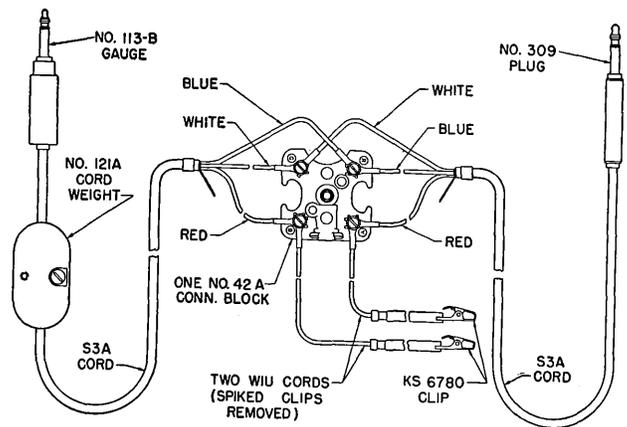

Fig. 1
- 2.02 Testing Cords—Two Test cord assemblies shown in Fig. 1 used in testing jacks for cut-out by the A.C. Continuity Method. (To be made up locally).
3.01 Insert a No. 113-B gauge into a multiple jack of an idle outgoing trunk to be tested and the associated No. 309 plug into the CON REAR jack of the test line circuit. Attach the No. 309 sleeve cord clip (see Fig. 1) to the sleeve of a plug of an idle cord.
3.09 Insert a No. 113-B gauge (Fig. 1) into a multiple jack of the trunk. Attach the gauge sleeve cord clip to an idle cord plug sleeve. Insert the associated No. 309 plug into the CON REAR jack and attach its sleeve cord clips to the sleeve of another idle switchboard plug. Insert the plug of the receiver cord into the REC jack. Disconnect the cord first used.
3.10 Insert the other No. 113-B gauge (Fig. 1) into another multiple jack of the trunk and the associated No. 309 plug into the CON FRONT jack. Attach the No. 309 plug sleeve cord tip to the sleeve of another idle cord.
3.18 Insert the 113-B gauge (Fig. 1) into the TBL jack. Attach the gauge sleeve cord clip to the sleeve of an idle cord. Insert the No. 309 plug into the CON REAR jack and connect its sleeve cord clip to another idle cord sleeve. Then insert the intercepting plug into a multiple jack of the same station line mentioned in 3.17.
3.26 Insert a No. 113-B gauge (Fig. 1) into the TBL jack. Attach the gauge sleeve cord clip to the sleeve of an idle switchboard cord. Insert the associated No. 309 plug into the CON REAR jack.
3.27 Insert the other No. 113-B gauge (Fig. 1) into the INCPT jack and its associated No. 309 plug into the CON FRONT jack. Connect the gauge sleeve cord clip and the No. 309 plug sleeve cord clip to the sleeves of separate idle switchboard cords.